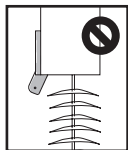
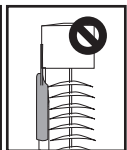
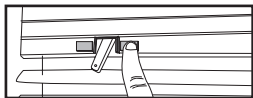

Figure 3.3; Tilt Stem Protrudes from Headrail Preventing a Flush Mount
Figure 3.4; Blind Slats Touch E-Wand
Figure 4.1; (Optional) Build out Header
The blind mount must have a secure connection to the header. Based on the results of the two tests [Fig. 3.3 and Fig. 3.4], it may be necessary to add the supplied EXTRA ADHESIVE STRIPS ⑤ to your blind's header to build the mounting attachment outward [Fig. 4.1].